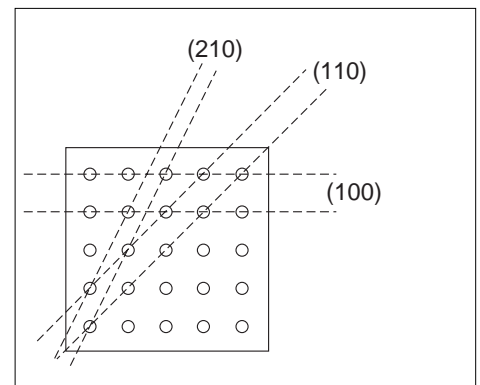

Figure 12.2 "Atomic" Planes of the Bragg Crystal
- ② Notice the three families of planes indicated in Figure 12.2. (The designations (100), (110), and (210) are the Miller indices for these sets of planes.) Adjust the Transmitter and Receiver so that they directly face each other. Align the crystal so that the (100) planes are parallel to the incident microwave beam. Adjust the Receiver controls to provide a readable signal. Record the meter reading.